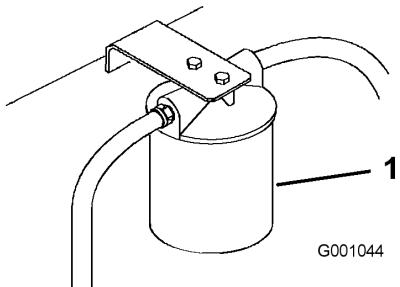

Figure 62
3. Place drain pan under filter, remove the old filter and wipe the filter adapter gasket surface clean (Figure 62).